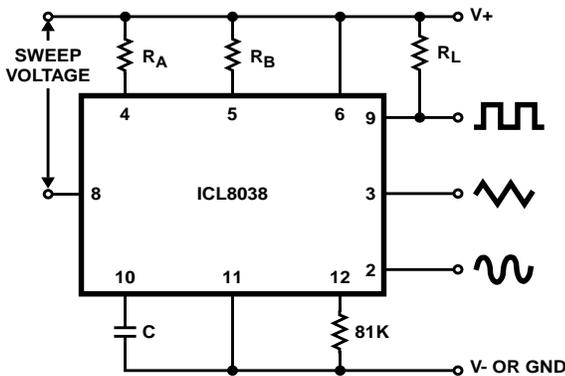

FIGURE 5B. CONNECTIONS FOR FREQUENCY SWEEP
- The hi and lo frequencies can be obtained by connecting pin 8 to pin 7 (f_{HI}) and then connecting pin 8 to pin 6 (f_{LO}). Otherwise apply Sweep Voltage at pin 8 ($\frac{2}{3} V_{\text{SUPPLY}} + 2\text{V}$) $\leq V_{\text{SWEEP}} \leq V_{\text{SUPPLY}}$ where V_{SUPPLY} is the total supply voltage. In Figure 5B, pin 8 should vary between 5.3V and 10V with respect to ground.
For larger FM deviations or for frequency sweeping, the modulating signal is applied between the positive supply voltage and pin 8 (Figure 5B). In this way the entire bias for the current sources is created by the modulating signal, and a very large (e.g. 1000:1) sweep range is created ($f = 0$ at $V_{\text{SWEEP}} = 0$). Care must be taken, however, to regulate the supply voltage; in this configuration the charge current is no longer a function of the supply voltage (yet the trigger thresholds still are) and thus the frequency becomes dependent on the supply voltage. The potential on Pin 8 may be swept down from V_+ by $(1/3 V_{\text{SUPPLY}} - 2\text{V})$.